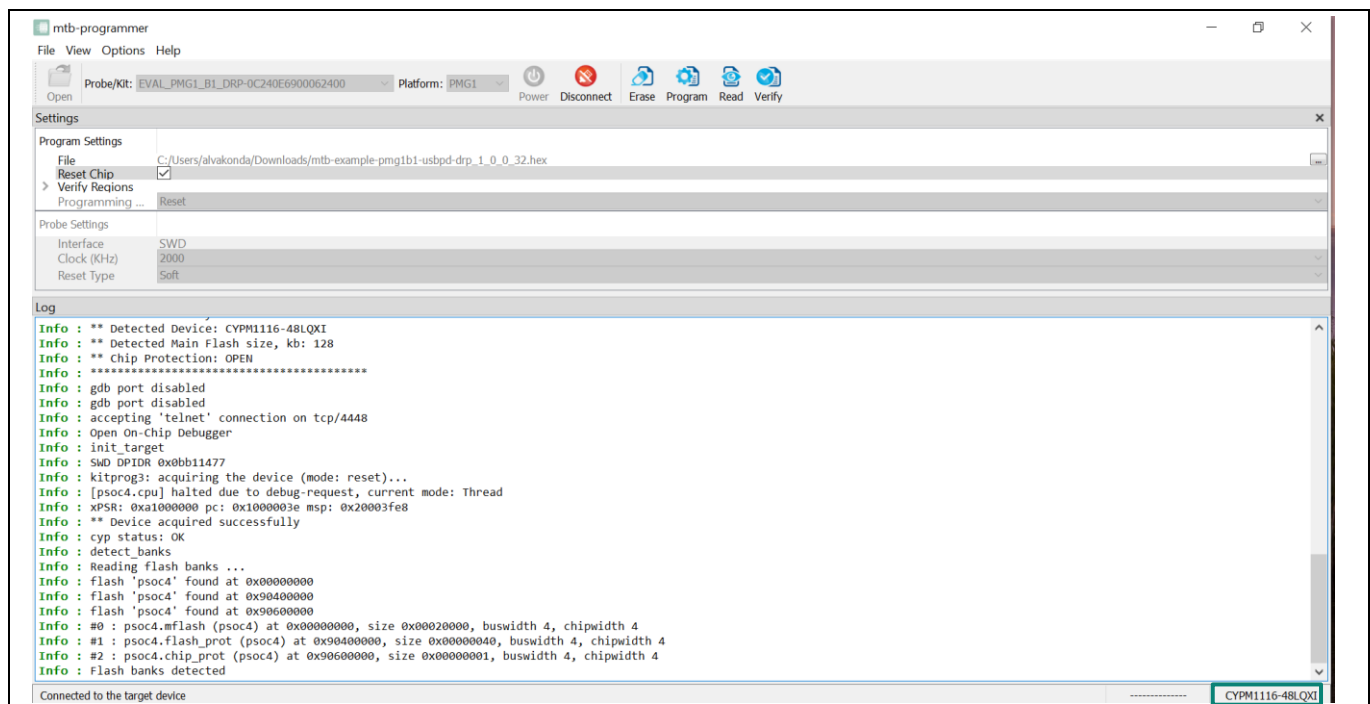

Figure 14 Connect
3. ModusToolbox™ Programming Package communicates with the device and displays various messages in the Log window. Then, a message in the status bar indicates that it is connected as shown in Figure 14.